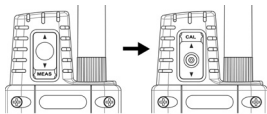

Figure 1
1. Switch the CO₂ sensor to the "CAL" position as shown in Figure 1.